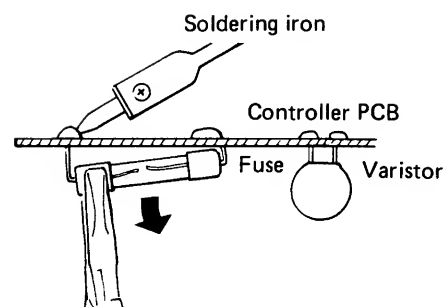

Fig. E-11H
2. Pull out the fuse at the metal clasp by a pair of pliers while heating the soldered leads on the back side of the controller PCB with a soldering iron (30W or 60W). Fig. E-11H.